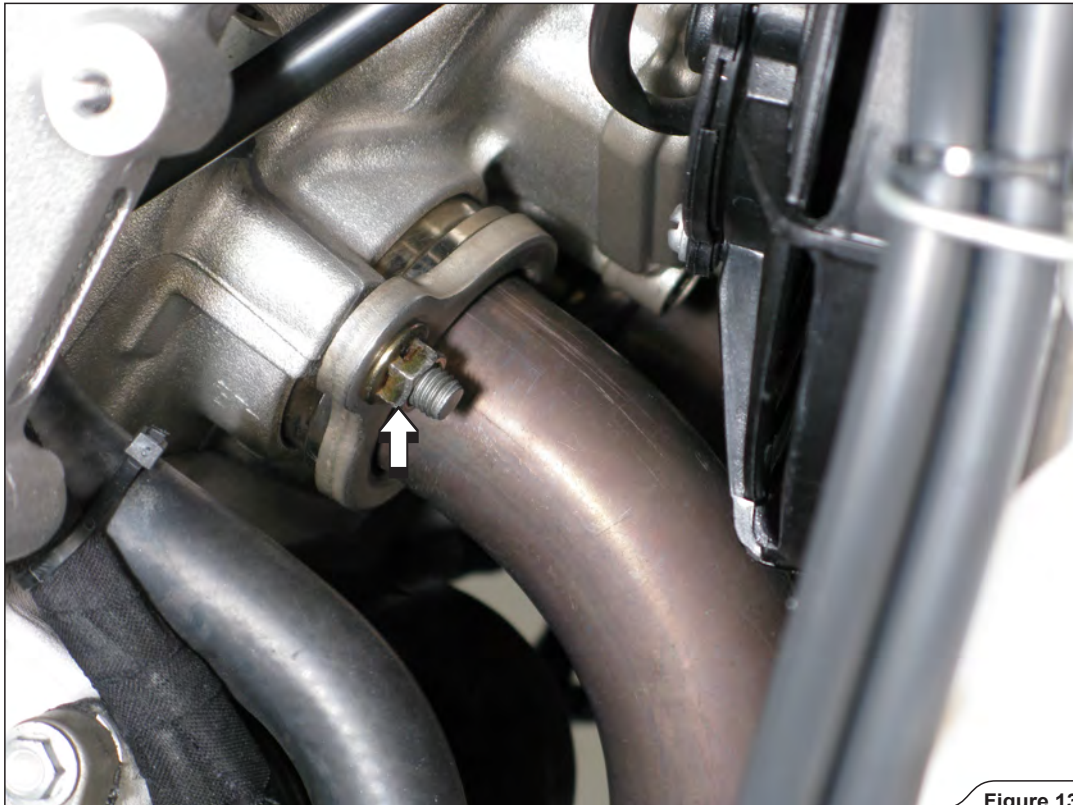

Figure 13
10. Unscrew the nuts from the front header tube flanges; make sure not to damage the radiator's cooling fins (**Figure 13**).